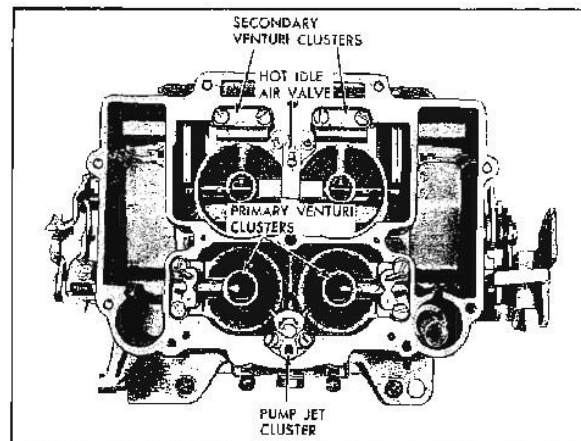

Fig. 6B-80 Top View of Carburetor Body Assembly
11. Lift out auxiliary throttle valve, shaft and weight assembly (Fig. 6B-81).